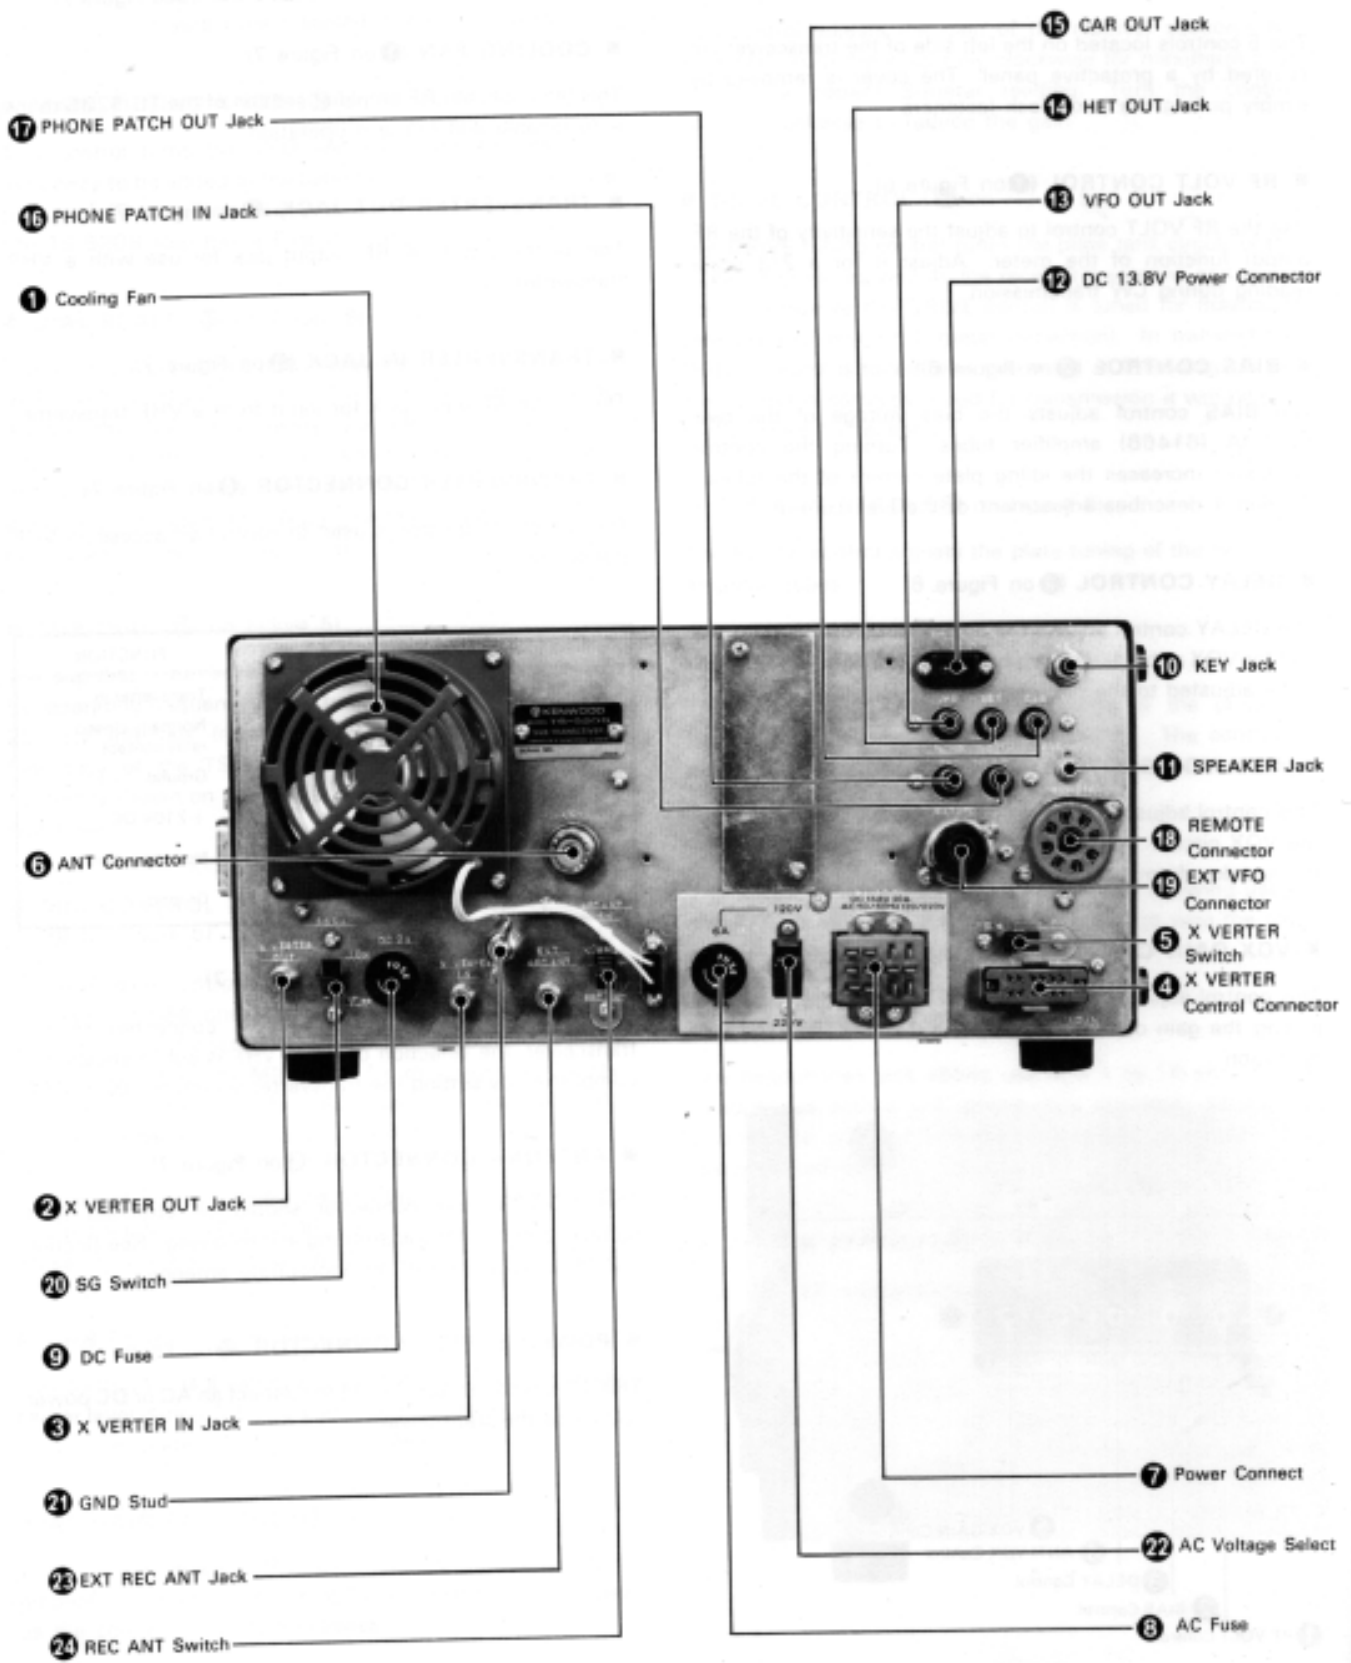

Fig. 7 Rear Panel Controls
3.3 REAR PANEL CONTROLS (See Figure 7)
■ COOLING FAN (1 on Figure 7)
■ TRANSVERTER OUT JACK (2 on Figure 7)
■ TRANSVERTER IN JACK (3 on Figure 7)
■ TRANSVERTER CONNECTOR (4 on Figure 7)
■ XVERTER SWITCH (5 on Figure 7)
■ ANTENNA CONNECTOR (6 on Figure 7)
■ POWER SUPPLY CONNECTOR (7 on Figure 7)
■ AC FUSE (8 on Figure 7)
■ DC FUSE (9 on Figure 7)
■ KEY JACK (10 on Figure 7)
■ SPEAKER JACK (11 on Figure 7)
■ 13.8V DC CONNECTOR (12 on Figure 7)
■ VFO OUT JACK (13 on Figure 7) HET OUT JACK (14 on Figure 7) CAR OUT JACK (15 on Figure 7)
■ PHONE PATCH IN JACK (16 on Figure 7)
■ PHONE PATCH OUT JACK (17 on Figure 7)
■ REMOTE CONNECTOR (18 on Figure 7)
■ **EXTERNAL VFO CONNECTOR (19)** on Figure 7)
■ **SG SWITCH (20)** on Figure 7)
■ **GND (Ground) LUG (21)** on Figure 7)
■ **AC VOLTAGE SELECT SWITCH (22)** on Figure 7)
■ **EXTERNAL RECEIVER ANTENNA JACK (23)** on Figure 7)
■ **RECEIVER ANTENNA SWITCH (24)** on Figure 7)